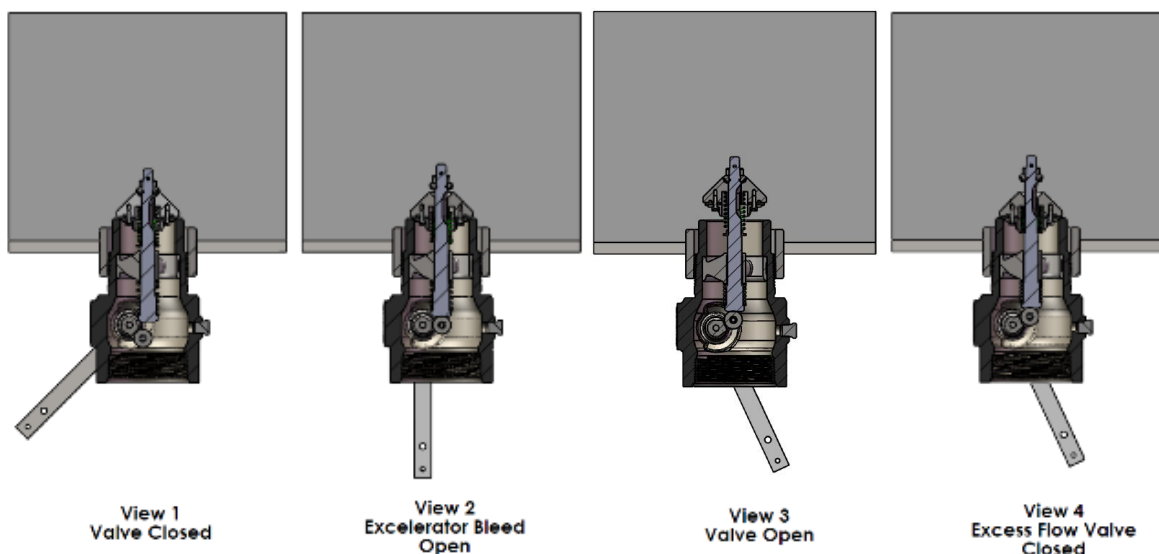

Figure 3: Operational Schematic
3. Move the lever to the half-open (rapid equalizing) position (Figure 3, View 2) to equalize pressure. When the main poppet clicks open, move the operating lever fully open.
### Principle of Operation (Figure 3)
Refer to the schematic drawing, Figure 3. In Figure 3, View 1, the valve is held closed by both tank pressure and the valve's closing spring. There is no leakage past the resilient seats in the poppet to the valve outlet in this position.
The valve is opened by moving the operating lever to approximately midpoint in its 70° travel (Figure 3, View 2). This allows the cam to place the rapid equalization portion of the valve stem in the pilot opening, permitting a larger amount of product to bleed downstream than if the operating lever was moved to the full open position.
When tank and downstream pressures have equalized in the bleed position, (after a few seconds), the excess flow spring pushes open the main poppet (Figure 3, View 3) and the operating lever can be moved to the full open position.